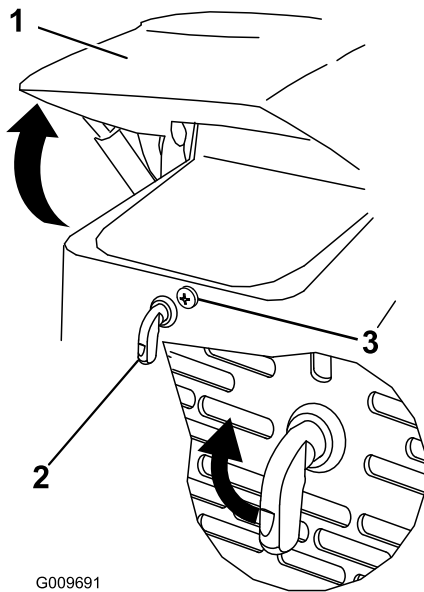

Figure 22
1. Loosen the hood locking screw (Figure 22)
2. Turn the hood latch clockwise (Figure 22).
3. Swing the hood up (Figure 22).
3. Tighten the hood locking screw to secure the latch (Figure 22).